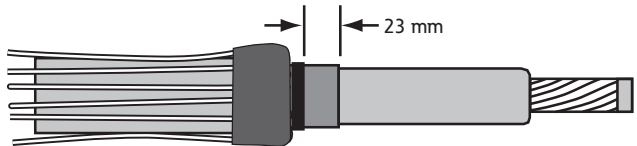

Figure 5. Application of tape marker for cable adapter
2. Wrap two turns of vinyl tape to serve as marker at a position of 23 mm from end of insulation screen. (See Figure 5.)